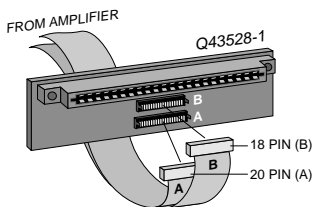

Fig. 3.6 PIP2 Input Adapter Connection
2. Remove the existing *P.I.P.* module or panel (two screws). For *PIP2* amplifiers, this may involve disconnecting the *P.I.P.* from a *PIP2* input adapter (see Figures 3.6 and 3.7). If a *PIP2* input adapter is already present, do not remove the ribbon cables from the adapter. Otherwise you will have to reconnect them in the next step.
PIP2 Amplifiers: (Requires a *PIP2* input adaptor. Crown part number Q43528-1.) Connect the *PIP2* input adapter to the two input cables of the amplifier (see Figure 3.6). Notice that the *PIP2* input adapter should be positioned with the *P.I.P.* edge connector on top and facing away from the amplifier. The 20 pin cable (A) is connected first, then the 18 pin cable (B) is connected. Both ribbon cables should extend below the *PIP2* input adapter.